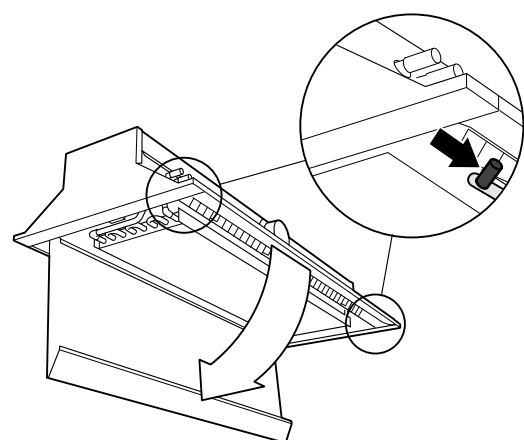

FIGURE 15
- 2) Swing down face plate to access the coil. (See **FIGURE 15**)